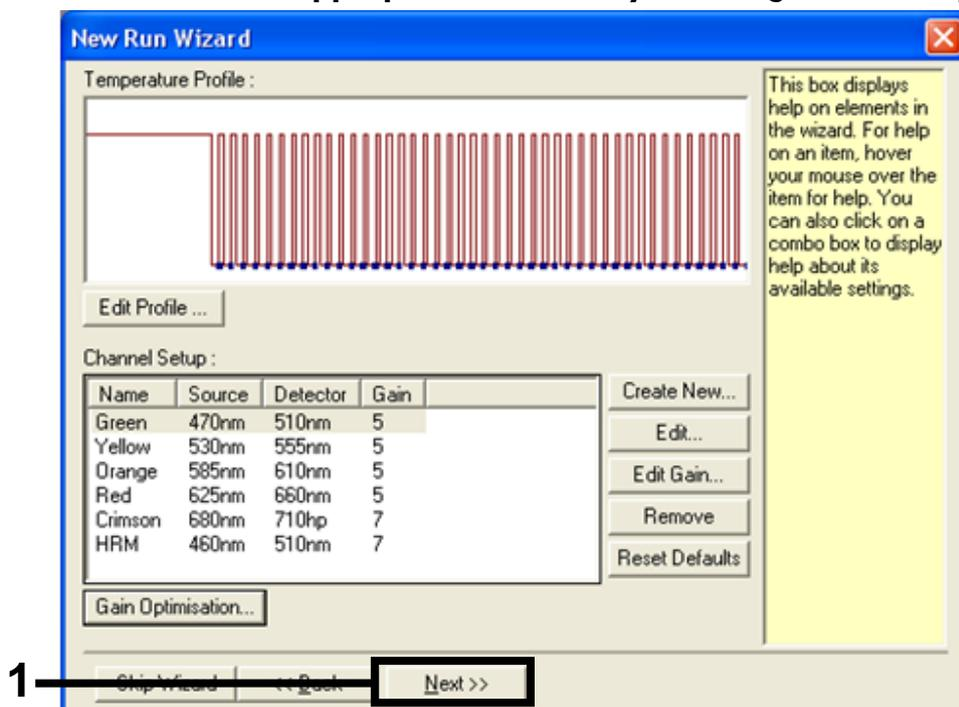

Figure 32. "Next" button (1).
15. Click "Next" (Figure 32) to save the *therascreen* EGFR RGQ PCR Kit template (*.ret file) in an appropriate location by selecting "Save Template".